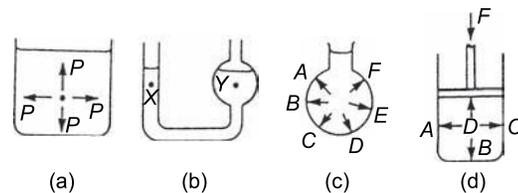

Figure 22.1
- (a) The pressure at a given depth in a fluid is equal in all directions; see Figure 22.1(a).
- (b) The pressure at a given depth in a fluid is independent of the shape of the container in which the fluid is held. In Figure 22.1(b), the pressure at X is the same as the pressure at Y.
- (c) Pressure acts at right angles to the surface containing the fluid. In Figure 22.1(c), the pressures
- (d) When a pressure is applied to a fluid, this pressure is transmitted equally in all directions. In Figure 22.1(d), if the mass of the fluid is neglected, the pressures at points A to D are all the same.